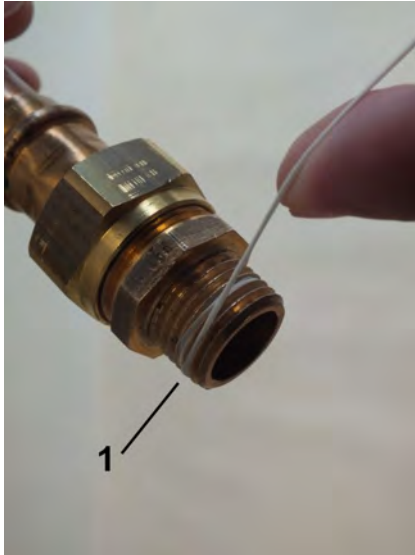

Fig. 9: Apply sealing thread
- ### 2. ▶ Apply sealing thread (Fig. 9/1) to the napped area in the threaded direction. Observe the quantity recommended by the sealant manufacturer